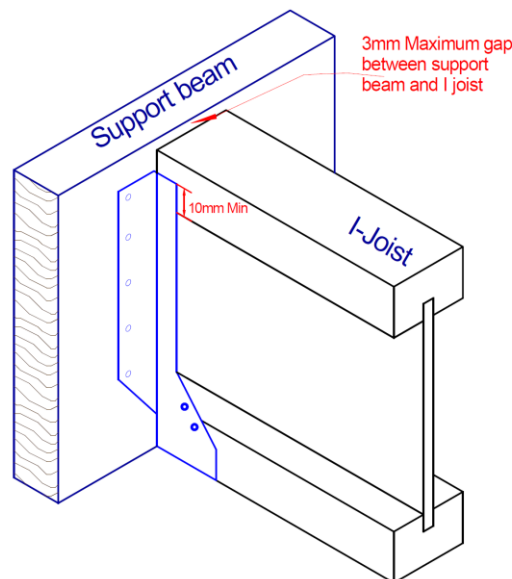

Figure 1 Details of Face Mount Joist connectors
1. G300 Z275, 1.2mm thickness, Face Mount I-Joist Hangers, (IJFM235/40, 297/40; 190/45, 240/45, 300/45; 234/50, 297/50; 200/60, 235/60, 290/60; 200/65, 235/65, 290/65; 235/70, 290/70; 235/90, 290/90), see Figure 1 for a typical hanger. The evaluation was carried out via testing and computations based on 3.75x40mm Wilmaplex galvanized flat head nails and a support beam of 290x45mm MGP10 radiata pine and Tilling's smart frame I joist. The design capacities are given in Table 1.